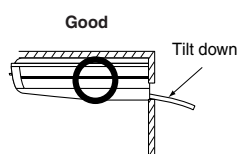

Fig. 21
- Keep the drain pipe short and sloping downwards at a gradient of at least 1/100 to prevent air pockets from forming. **(Refer to Fig. 21)**
- Use the attached drain hose (1) and clamp (2).